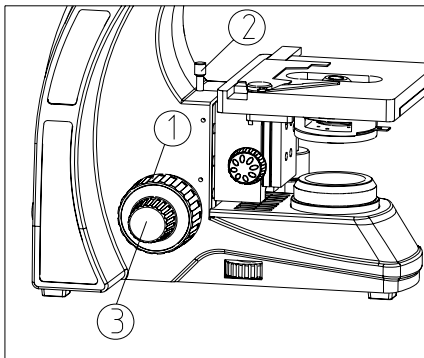

Fig. 10
2. Observe the right eyepiece with right eye. Rotate the coarse focusing knob ① until the image appears (see Fig. 10).
3. Rotate the fine focusing knob ③ for clear details.